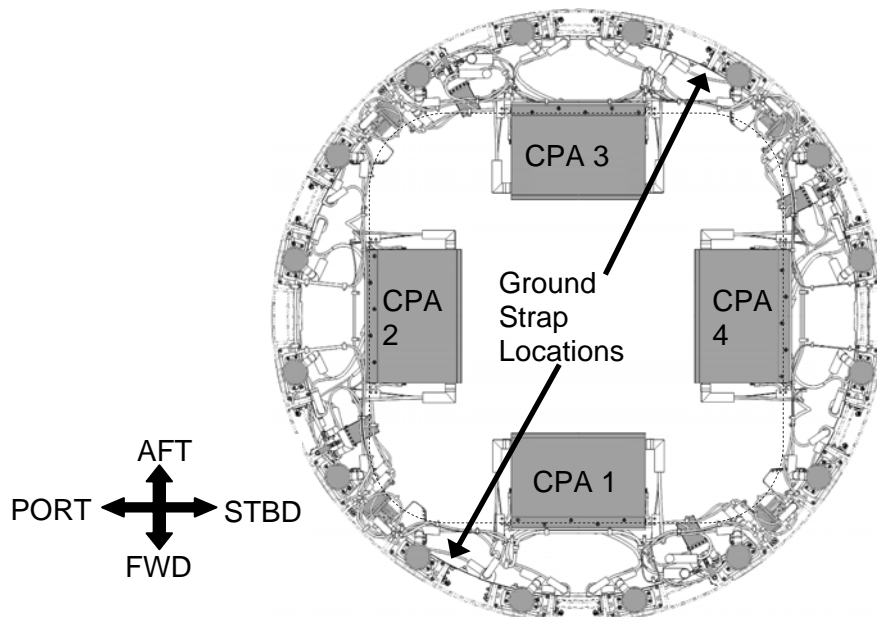

Figure 9.- Ground Strap Locations on ACBM (view from inside Cupola looking Zenith towards Node 3).
- 7.3 Locate four Ground Strap Mounting Brackets (two on Active CBM Ring and two on Passive CBM Ring). Refer to Figures 9, 10, 11.